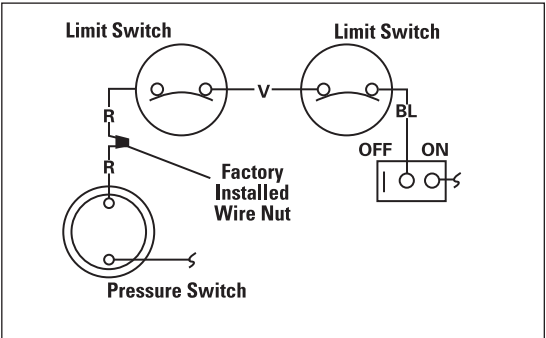

Figure 3-13 — Wiring Before Modification
2. Remove factory-installed wire connector between two (2) red wires labeled “CONNECTION FOR FIELD INSTALLED CONTROL SWITCH.” (See Figure 3-13.)